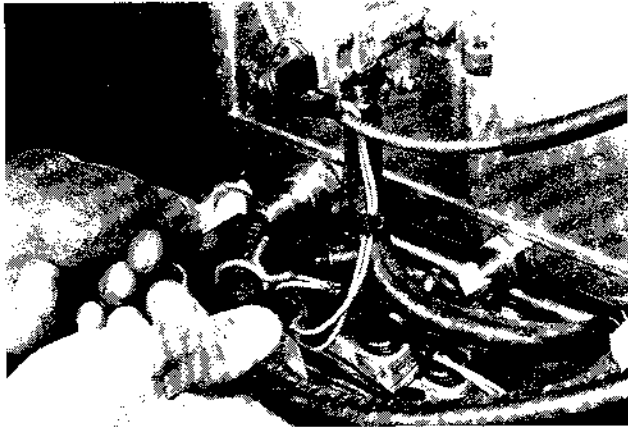

Fig.18
- 10 Begin by unsealing and reconnecting the brake servo pipe, seen in Fig.18, then start the engine and compare with the speed just recorded; if there is a change, the fault lies in the brake servo hose or in the brake servo unit itself. This area can now be investigated and the problem rectified.